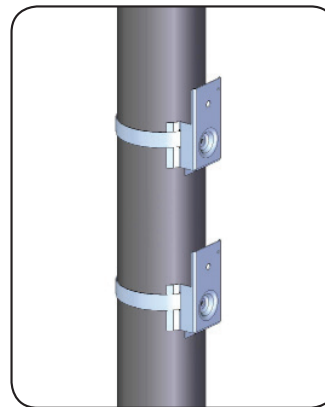

Figure 6.10 – Steel pole mounting brackets
3. Loosely attach the mounting brackets with steel bands to the pole at the marked locations. Do not fully tighten the steel bands at this time (Figure 6.10).